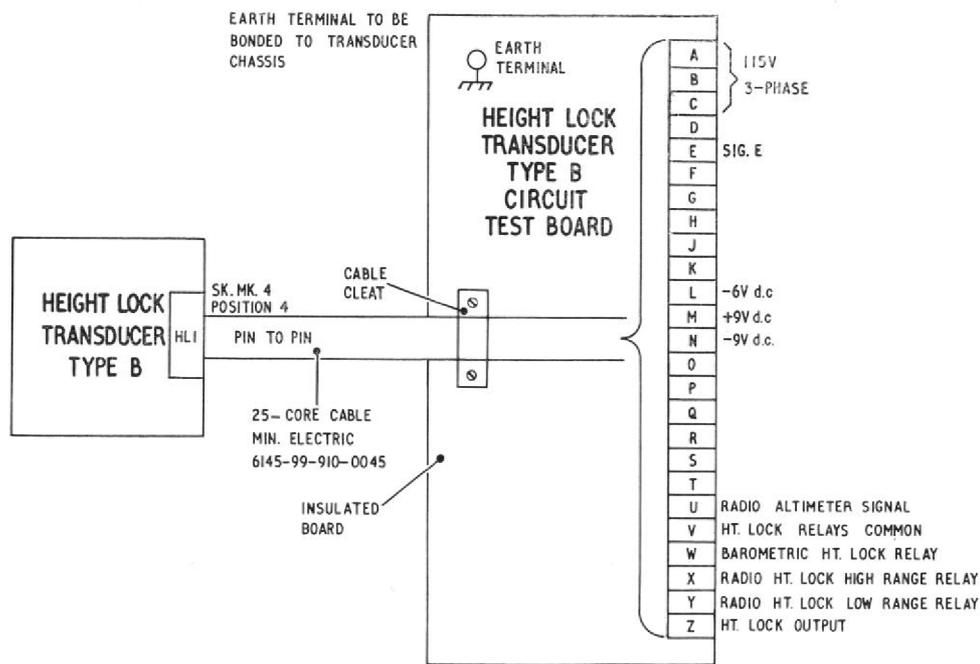

Fig. 1. Transducer connected to circuit test board
or if the input connections are suspected of being faulty. To facilitate the checks a locally manufactured test board as shown in fig. 1 may be used.
(5) Relay RLW1-2. Check that when S2 (HLTP) is switched from SERVO to BAROMETRIC, RLWA1-2 operates, producing continuity between busbar 112-113 on the side of the chassis assembly and the end of C6 nearest the rear of the chassis, see chap. 4, fig. 1